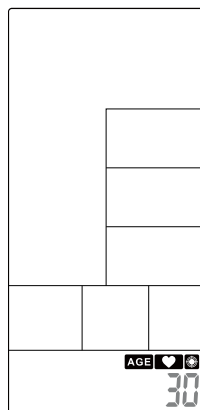

Figure 45
- ① In Standby mode, press Target Heart-Rate key and AGE will light up, along with along sound for 1s.
- ② AGE value is flashing, press UP and DOWN to preset your Age (Figure 45). Press ENTER to confirm along with buzzer beeps 1s and HEART RATE last lighting up.